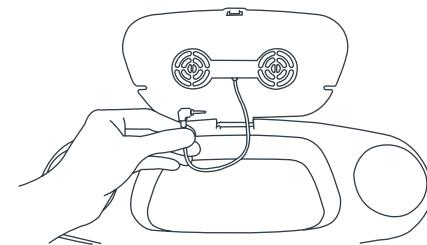

Fig. 10
- 10)** • The parent tray comes with speakers with an MP3 jack inside. The speakers have a wire with a male jack for use with MP3 players so you and your child can listen to music while you stroll. Connect male end of speaker wire into your MP3 player (Fig. 10).